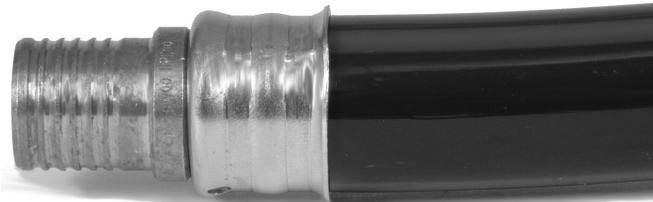

Figure 3 – Completed Pressed Fitting
1. Inspect the pressed connection (*Figure 3*) – Look for the following: